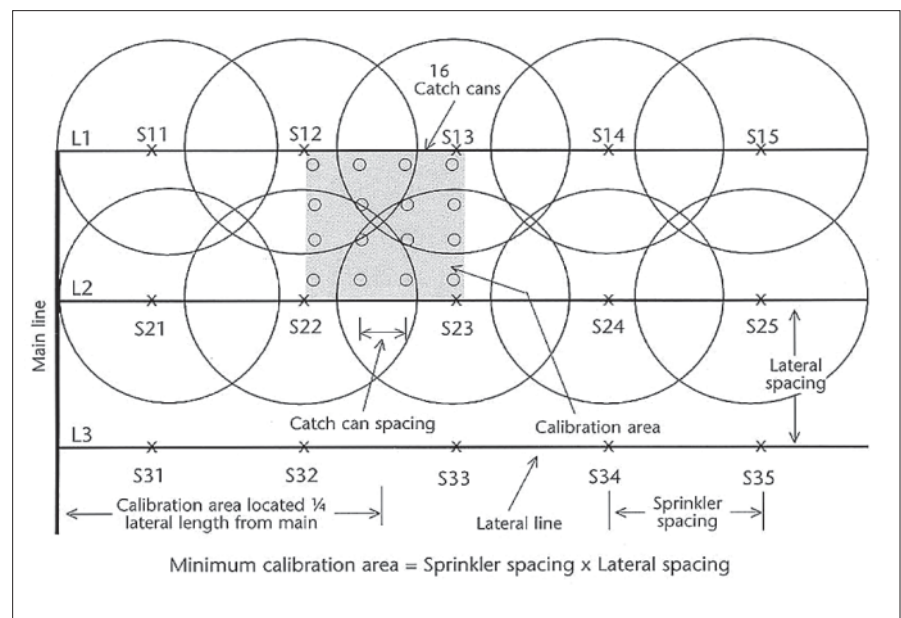

Figure 36-8. Collection container layout to calibrate sprinklers or volume guns in a square sprinkler spacing operating as a block.
Square sprinkler spacing operated as a block (two or more adjacent laterals operating at the same time)(Figure 36-8). *Volume gun systems:* This procedure should be repeated for each gun or hydrant contributing to the area being calibrated. This operating situation results where one or two guns are moved from hydrant to hydrant throughout the field. Since stationary big guns should not be operated "head to head" (multiple sprinklers operating side-by-side and throwing water on the same area simultaneously), guns must therefore be operated individually for the same amount of time to complete the calibration.
As depicted in Figure 36-8, the calibration area may be positioned or centered between the two laterals. Four sprinklers contribute area in the setup. With no wind effects, all four sprinklers should contribute equal flow to the calibration area (provided all sprinklers are functioning properly). If one of the four sprinklers is functioning improperly, the calibration results are not biased by its position within the calibration area.
Block pattern with two or more laterals operating at the same time (scenario shown in Figure 36-8).
4. As Figure 36-8 shows, set out gauges in a rectangular pattern equally spaced at the distance determined in Item 2 (20 ft) within the calibration area.